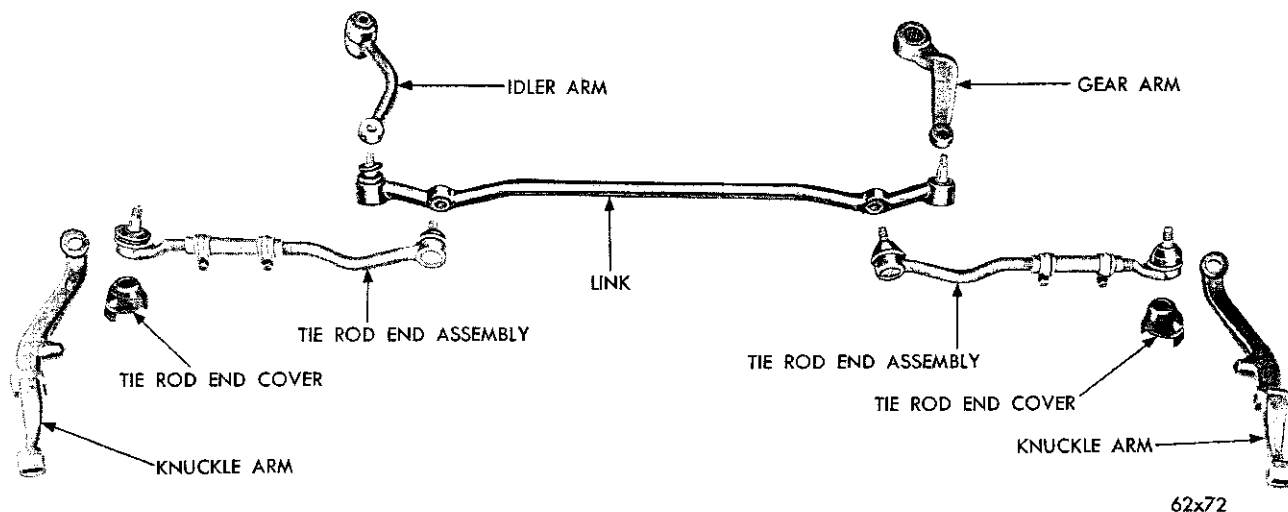

Fig. 16—Steering Linkage (Disassembled View)
(1) Position the upper and lower ball joint studs into the steering knuckle and install the lock washer and nuts. Tighten the upper ball joint stud nut to 100 foot-pounds torque on Models TC-1 and TC-2 and 135 foot-pounds torque on Models TC-3 and TY-1. Tighten the lower ball joint stud nut to 115 foot-pounds TC-1 and TC-2, 135 foot-pounds (TC-3 and TY-1) and install the cotter pin.
(2) Slide the brake dust shield, support and shoe assembly over the knuckle and into position. Install the lockwashers and nuts on the upper rear and lower front bolts.
(3) Install the upper front and lower rear bolts through the dust shield and steering knuckle. Position the steering arm over the bolts. Install the lockwashers and nuts. Tighten the steering knuckle to brake support bolts 55 foot-pounds torque and the steering knuckle to steering knuckle arm bolts 80 foot-pounds torque. Install the cotter pins.
(4) Remove the covering from the brake shoes. Install the wheel, tire and drum assembly. Adjust the front wheel bearings. Refer to Paragraph "Front Wheel Bearing Adjustment." in the "Front Suspension" Group 2.
6. STEERING LINKAGE (Figure 16)